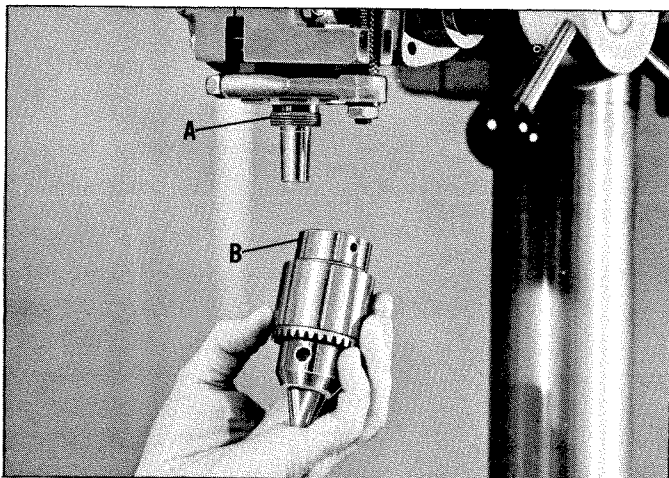
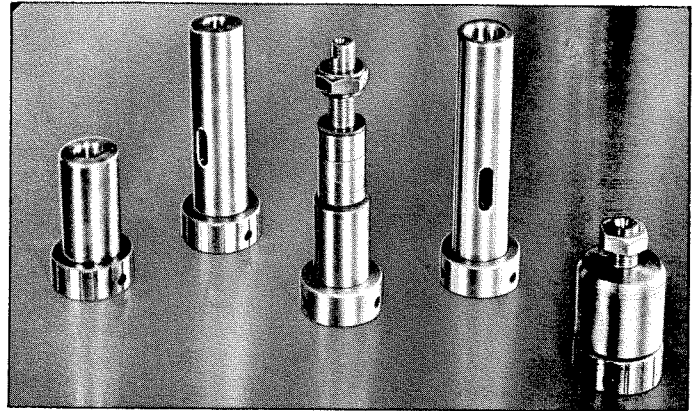

Fig. 8.
Fig. 9.
One of the unique features of 17" Key Chuck Drill Presses is that they come equipped with a lower spindle assembly having a $1 \frac{1}{16}$ " - 20 thread (A) Fig. 8, and the Cat. No. 15-830 Drill chuck which has a threaded mounting collar (B) Fig. 8.
Various spindle adapters, shown in Fig. 9, can also be adapted to the threaded spindle of your 17" key chuck Drill Press. These adapters are available as an accessory.
The spindle adapters, shown in Fig. 9, along with the Cat. No. 15-830 Drill Chuck, shown in Fig. 8, can be used on 17" Morse Taper Drill Presses when the lower spindle cartridge (Part No. 402-07-301-5001) is installed in the drill press instead of the standard #2 Morse Taper Spindle Cartridge.